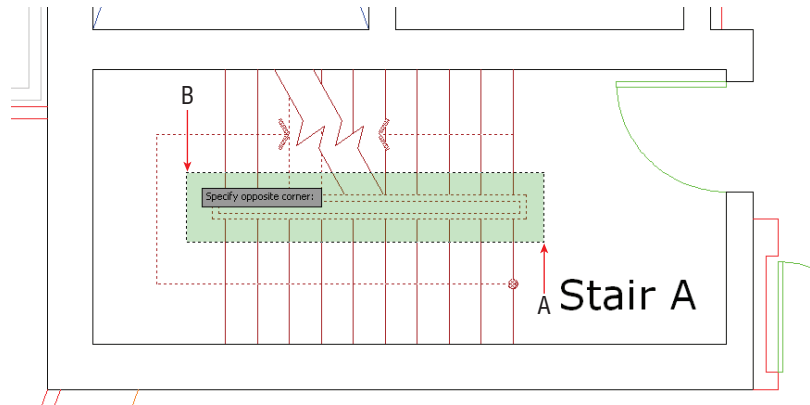

FIGURE 4.3 Drawing a crossing window to remove objects from the selection set
- Click point A and then B, as shown in Figure 4.3. When you click the first point on the right (A) and move the cursor to the left (at B), a transparent green *crossing window* appears between the points. Whatever the green window crosses is selected. The crossing selection removes the handrail and two of the stair treads because the selection was made at the Remove objects: prompt.